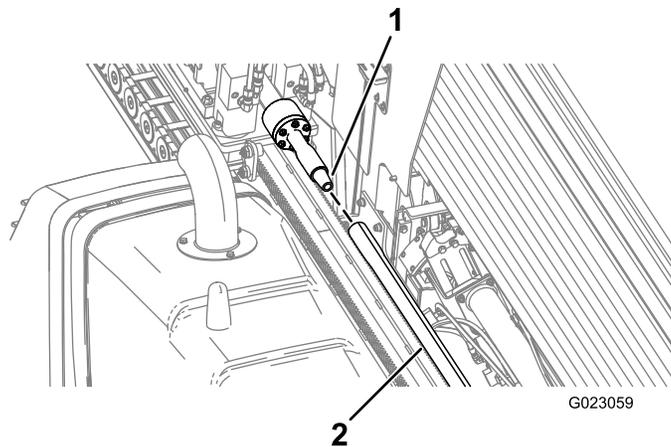

Figure 48
9. Rotate the drill spindle clockwise, and move the carriage slowly forward to insert the spindle into the female end of the pipe (Figure 48).
9. Rotate the drill spindle clockwise and move the carriage slowly forward to insert the spindle into the female end of the pipe (Figure 48).